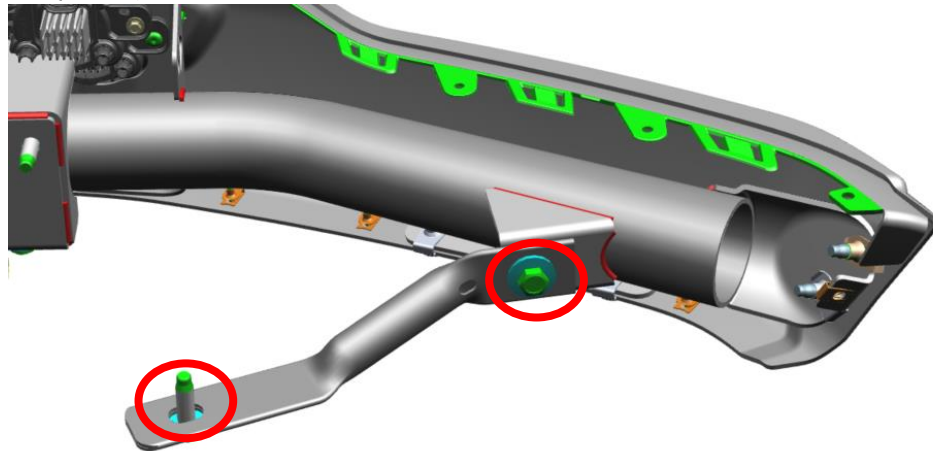

Figure 10 – Passenger Pencil Brace
- Install A32B1028/29AA using [2] M10 bolts from step 9 'Front Fascia Preparation' per pencil brace – Fig. 10